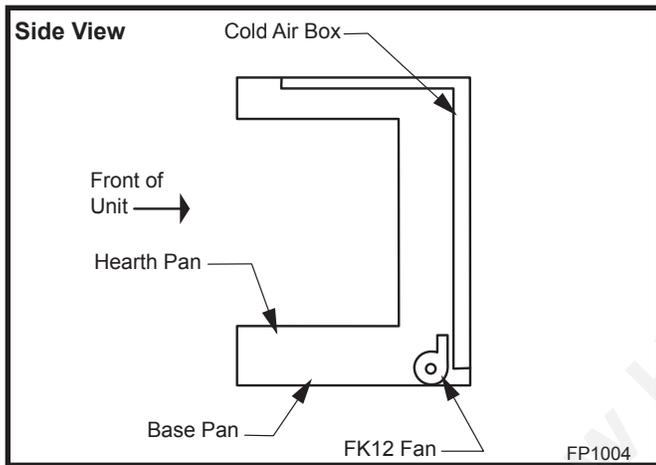

Fig. 79 FK12 Fan Kit placement.
2. Install FK12 fan in back of unit between hearth supports. (Fig. 79)